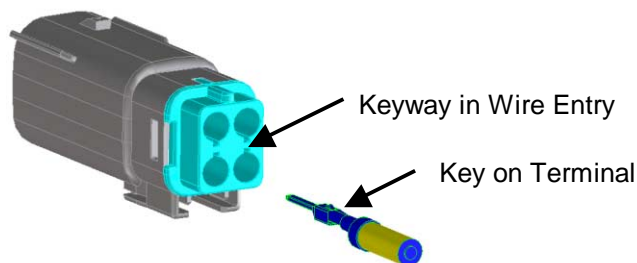

Figure 6: Terminal Orientation
2. The terminal must be positioned correctly when inserted into the housing to assure proper latching and retention. Orient the key on the back of the male terminal with the keyway on the rear of the housing (See Figure 6). Insert the terminal into the housing until it clicks or a slight pull back on the wire is met with resistance from terminal retention feature.